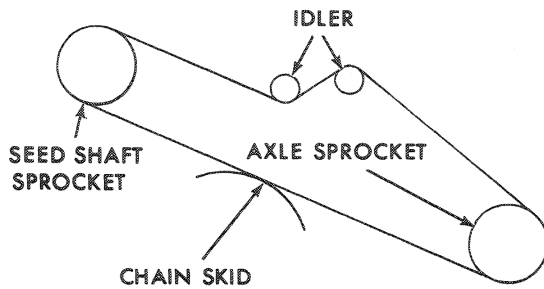

Figure 9
8. Install the drive chain as shown in Figure 9. Note the proper position of the chain skid and idler.
9. Install the drive chain as shown in Figure 9. Note the proper position of the chain skid and idler.